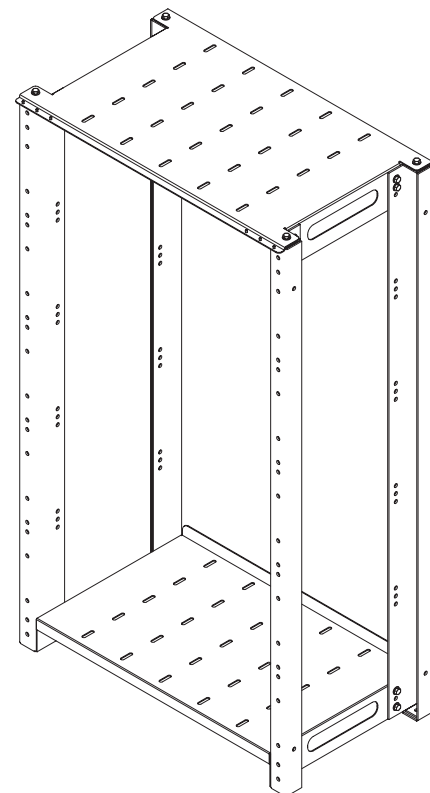

Figure 7.4c
- Attach the top cover to the 4 corner frames per Figure 7.4c. The 3-hole pattern in the top cover is to have bolts in the upper 2 holes when fastening to each corner frame (lower hole is left empty). Place bolts in each of the holes in the top and back of the top cover. Finger tighten bolts.